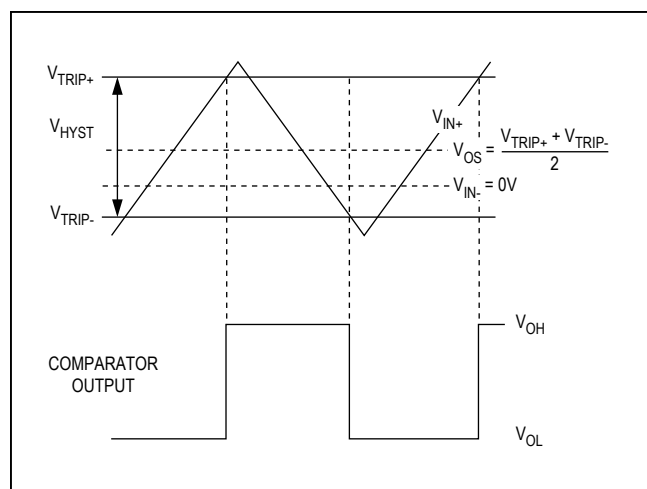

Figure 1. Input and Output Waveform, Noninverting Input Varied
**Note 2:** The input-referred trip points are the extremities of the differential input voltage required to make the comparator output change state. The difference between the upper and lower trip points is equal to the width of the input-referred hysteresis zone (see Figure 1).
**Note 3:** VOS is defined as the center of the input-referred hysteresis zone (see Figure 1).
The hysteresis in a comparator creates two trip points: one for the rising input voltage and one for the falling input voltage (Figure 1). The difference between the trip points is the hysteresis. When the comparator's input voltages are equal, the hysteresis effectively causes one comparator input voltage to move quickly past the other, thus taking the input out of the region where oscillation occurs. Standard comparators require hysteresis to be added with external resistors. The MAX941/MAX942/MAX944's
Figure 1 illustrates the case where  $IN-$  is fixed and  $IN+$  is varied. If the inputs were reversed, the figure would look the same, except the output would be inverted.